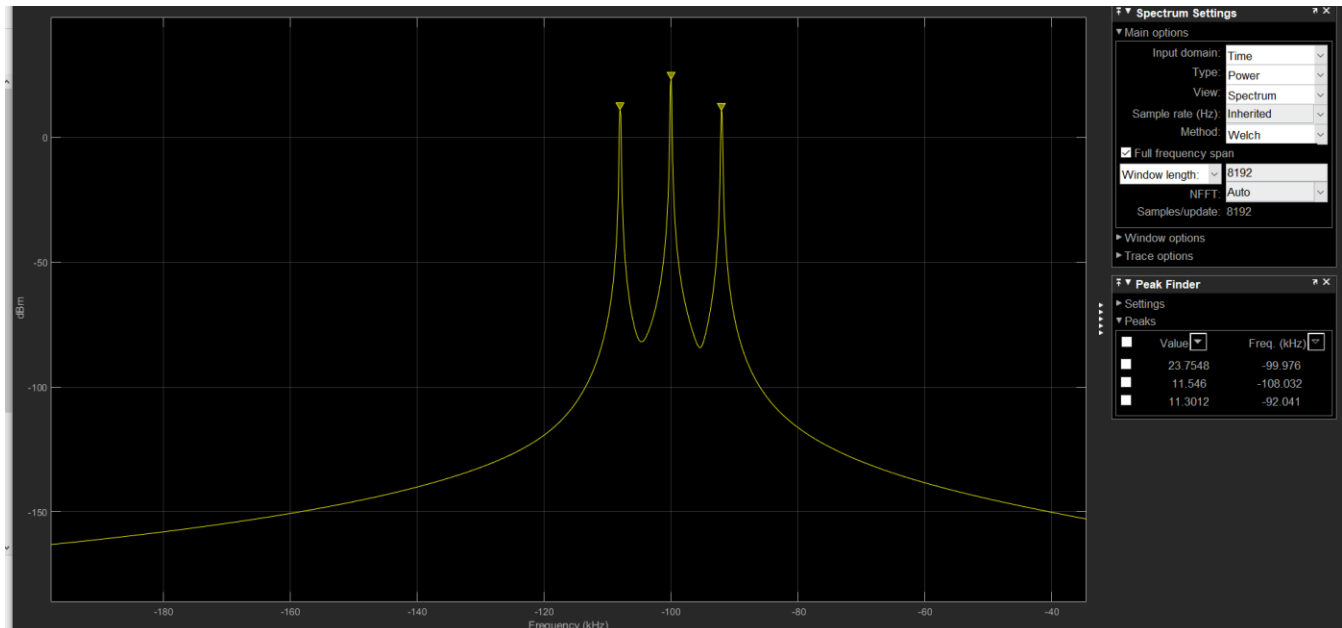

Fig. 4. A sample screenshot of Spectrum Analyzer.
- 4- Now, observe the modulated signal on the Spectrum Analyzer (SA) and record the power level of the carrier and each of the two sidebands (powers are measured in dBm). Adjust the Spectrum Analyzer’s zoom level so that you can see the peaks clearly. Use the “Peak Finder” option to record power and frequency values (similar to figure 4.) **Take a screenshot of what you see on the SA and attach to your report.** Calculate the power efficiency using a power measure and verify that the efficiency is 33%.
In this part of the lab, we will look at the envelope detector for the demodulation of standard AM signals. The envelope detector can be implemented by a rectifier. Figure 4 shows the AM demodulator module. It consists of a Saturation block which acts as a rectifying diode (only passes the positive values of the signal), a Digital Lowpass filter which acts as an envelope detector, and Gain Block to amplify the envelope, and a Constant for DC to remove the DC value of the output signal.